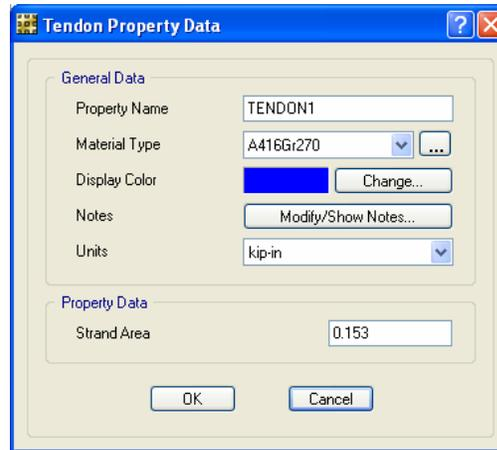

Figure 63 Tendon Property Data form
- B. Click the **Add New Property** button to access the Tendon Property Data form shown in Figure 63. Recall that the strands for the tendons have an area of 0.153 square inches.